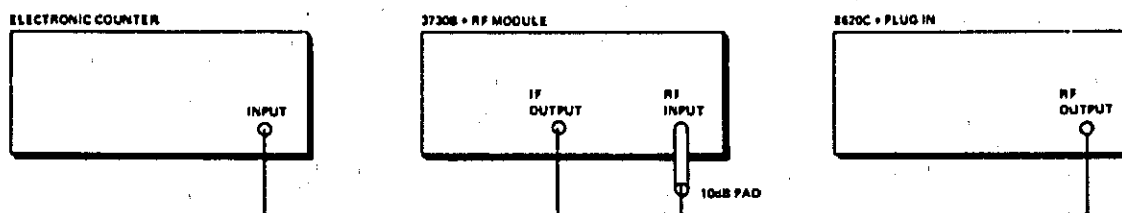

Figure 5-2 Discriminator, AFC and IF Centre Meter Adjustments,
1. Connect the test equipment up as shown in Figure 5-2.